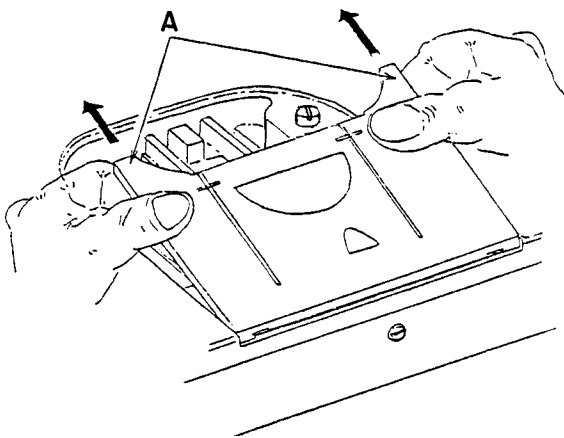

Fig. 8-1
2. Lift bed slide end (A) and pull out toward rear of machine. (Fig. 8-1).